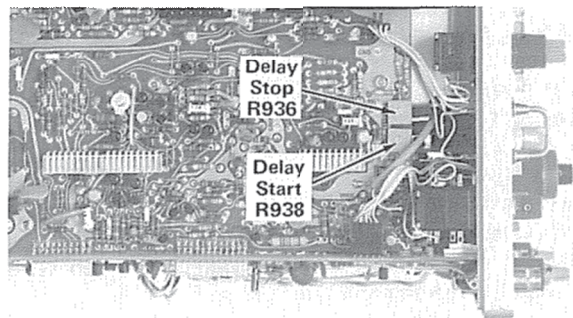

Fig. 5-23. Location of Delay Start and Delay Stop adjustments.
c. ADJUST—Delay Start adjustment, R938 (see Fig. 5-23), so the left side of the intensified zone starts on the leading edge of the second time marker.
<http://mahomah.squmil.com> Fig. 5-23. Location of Delay Start and Delay Stop adjustments.
f. ADJUST—Delay Stop adjustment, R936 (see Fig. 5-23), so the left side of the intensified zone starts on the leading edge of the tenth time marker.